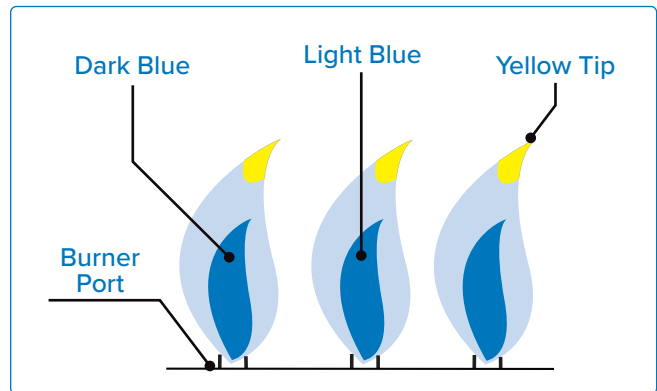

Fig. 26
- Too little air will cause yellow, sooty, lazy flames (**see Fig 26**).